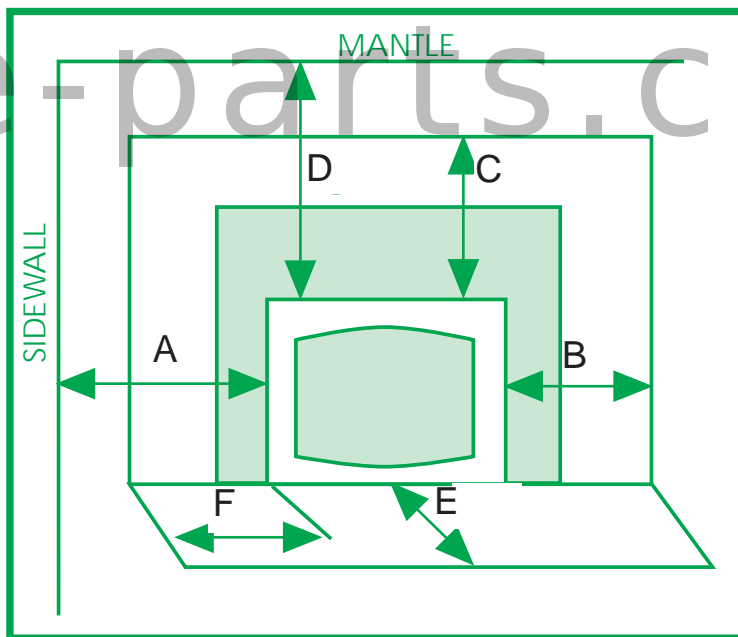

Figure 10
- * **Required Floor Protection:** (Fig. 10)
FLOOR PROTECTION: (Fig.10)
CLEARANCE TO COMBUSTIBLES: (Fig. 10)
NOTE: For clearances, use this clearance diagram (fig. 10) or the clearance diagram on the safety label attached to the back of the appliance.